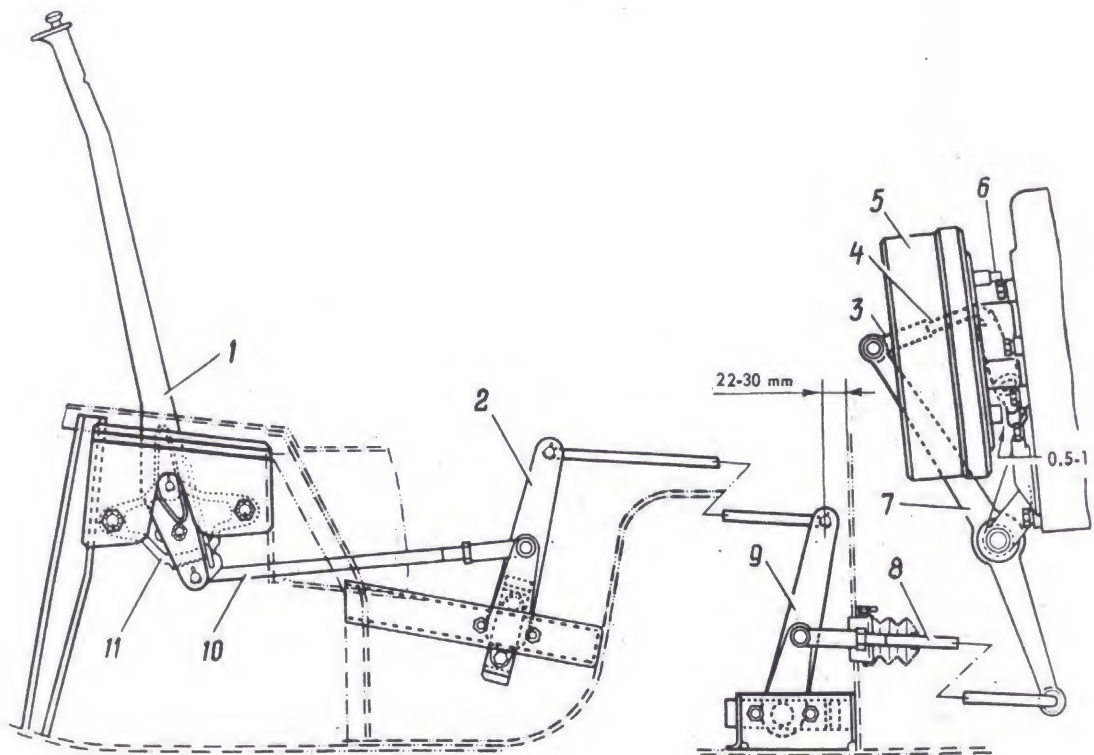

FIG. 53. PARKING BRAKE CONTROL LINKAGE
1. Set the gearbox lever and transfer case range lever in the neutral position. Set lever 1 (Fig. 53) in the foremost position. In this case brake drum 5 should rotate freely.